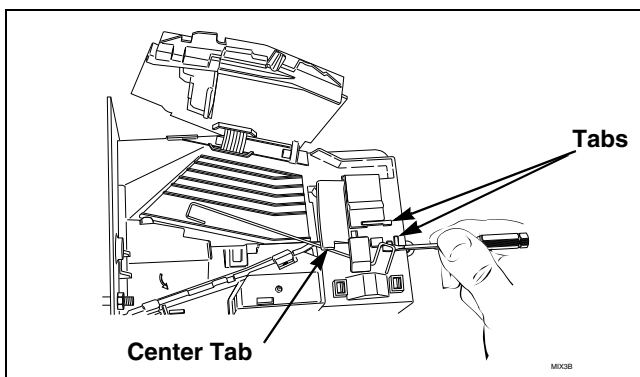
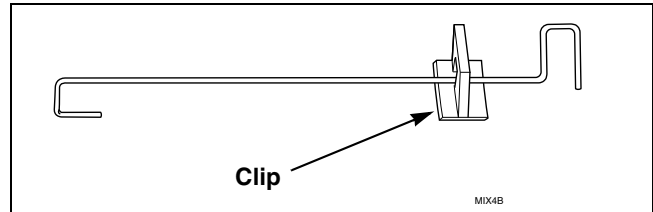

Figure 6
Figure 7
(6) Rotate spring clockwise, 40 to 60 degrees, until it is free from right tabs. Refer to *Figure 6*.
- (7) Use screwdriver to remove spring from center tab. Refer to *Figure 6*.
(8) Lift spring, with attached clip, off drop.
- (9) Remove clip from spring. Refer to *Figure 7*.